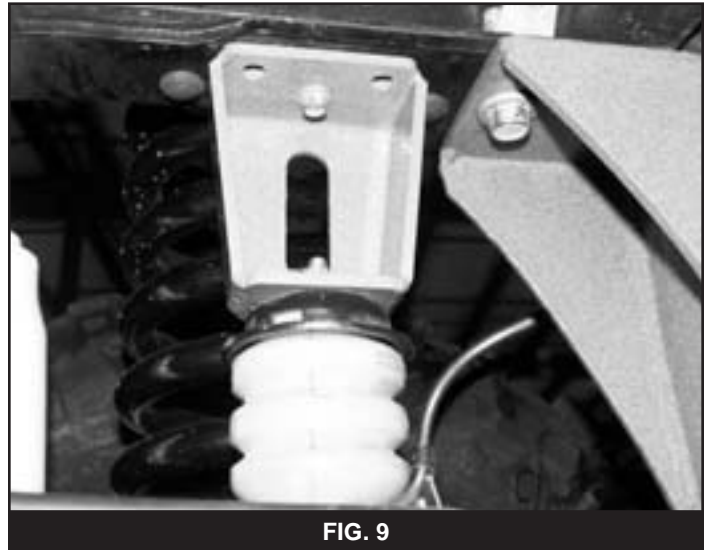

FIG. 9
24. Install the extended bump stop to the frame with the original hardware and torque to 20 ft-lbs (Fig 9). The closed face of the extension should face the outside of the vehicle. Install the original bump stop in the relocated bump stop cup.